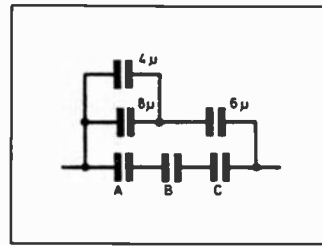

Fig. 5.11. Capacitor network.
2. Fig. 5.11 shows a network of capacitors in which A, B and C